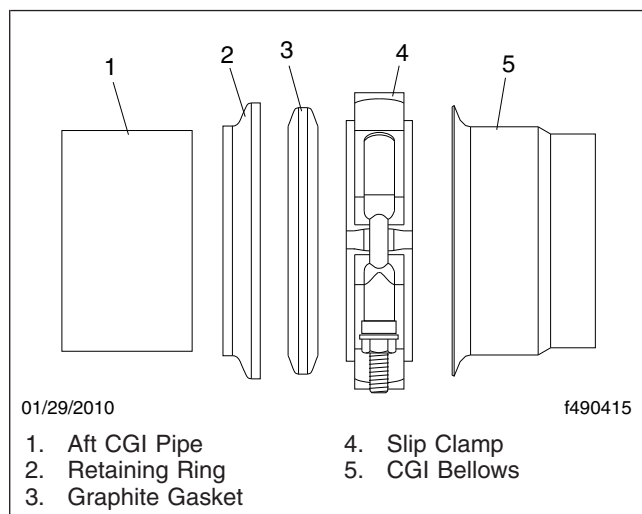

Fig. 11, Aft Facing Slip Clamp Installation
11. Slide the slip clamp, with the retaining ring and graphite gasket ring, on the aft CGI pipe. See Fig. 11 for proper installation.